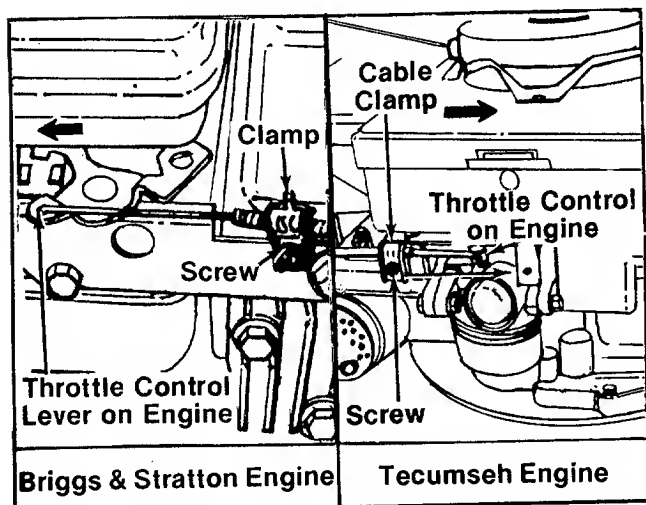

FIGURE 10.
8. Push the throttle control lever on the engine to the full open position (as far toward the outside of the unit as it will go on Briggs and Stratton engines and as far toward the rear of the unit as it will go on Tecumseh engines) as shown in figure 10.
10. Remove the screw on the cable clamp shown in figure 10. Slip the control casing under the clamp. With the throttle lever on the engine still in the full open position, replace and tighten the screw to secure the throttle control cable.
1. Loosen, but do not remove, screw securing throttle control wire assembly at engine. See figure 10.